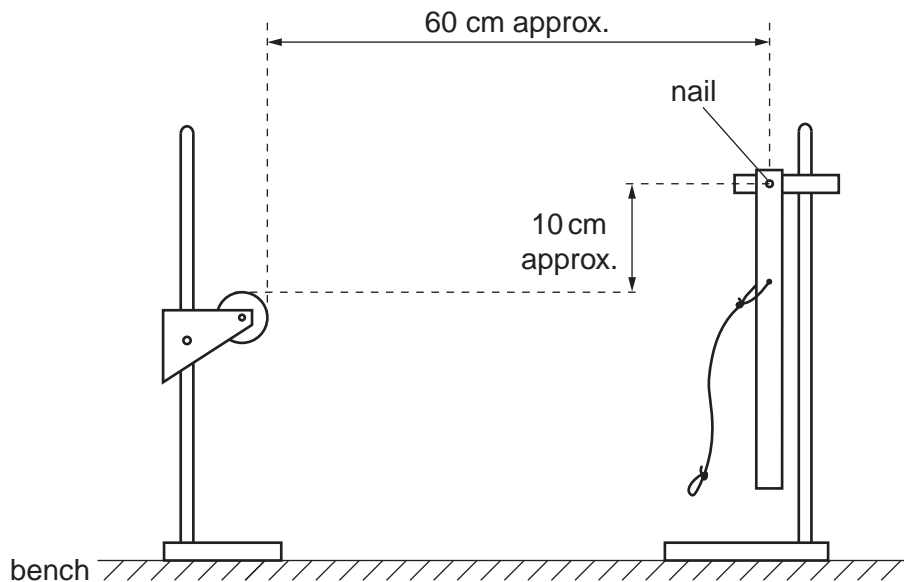

Fig. 1.2 (not to scale)
- 3 The apparatus should be assembled as in Fig. 1.2, and returned to this state if it is to be used by another candidate.